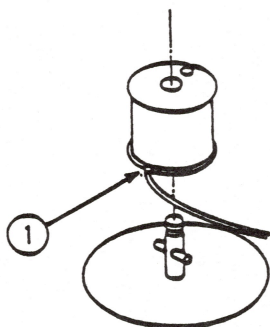

FIGURE 7
14. Remove the bottom end of the carrier wire from the motor pulley (see Figure 7, #1).
7. Insert the end of the wire into the bottom slot on the motor pulley (see Figure 7, #1).